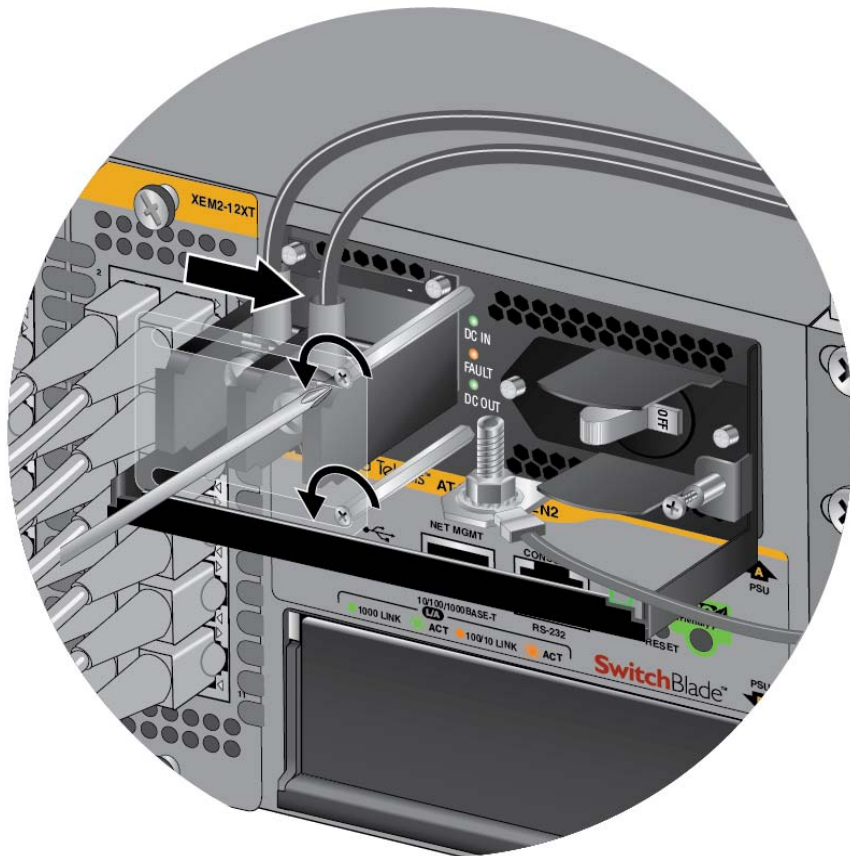

Figure 108. Opening the Plastic Window over the Terminal Block
4. Use a #1 screwdriver to loosen the two screws that secure the plastic cover over the terminal block and slide the cover to the right. You may need to slightly lift the locking handle to access the bottom screw. Refer to Figure 108